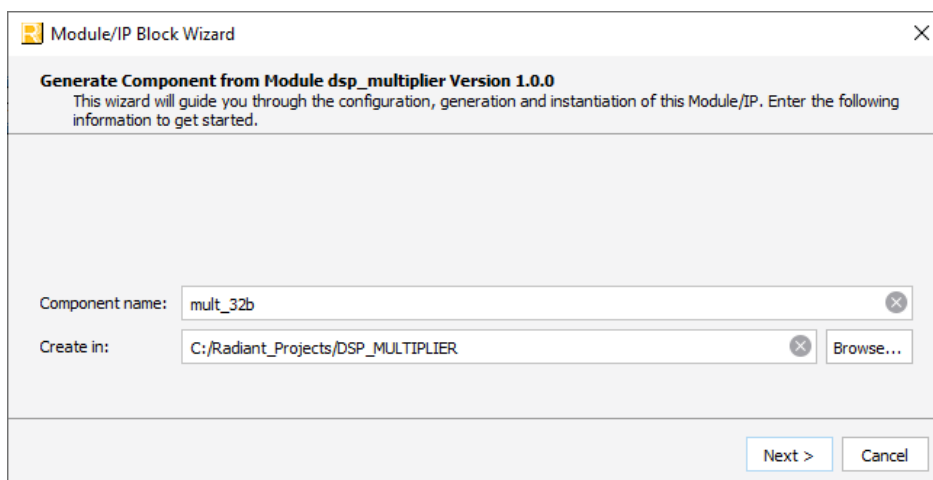

Figure 3.1. Example: Generating 32-bit Multiplier Using Module/IP Block Wizard
2. Fill out the following information then click **Next**. An example is shown in Figure 3.1.